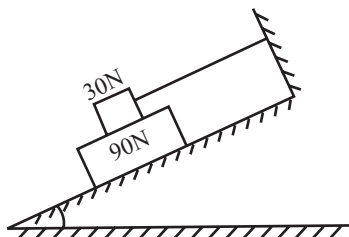

Fig 9.44
Q. 25: What should be the value of the angle shown in fig 9.44 so that the motion of the 90N block impends down the plane? The coefficient of friction for the entire surface = 1/3.